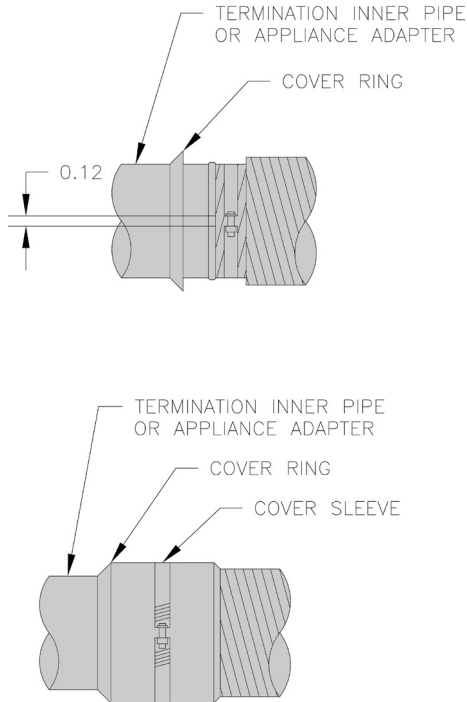

Figure 5-11: Vent Pipe Assembly to Vent Termination Inner Pipe & Appliance Adapter
12. Tighten the inner pipe clamp bolts at both vent pipe ends, until clamp halves are within 1/8 in. apart. See Figure 5-11.
13. Starting with vent termination end, slide the cover sleeve assembly and the cover ring together to engage the ring in the groove of the sleeve, then, tighten the built-in cover sleeve clamp. Repeat above steps at the boiler end. See Figure 5-11.